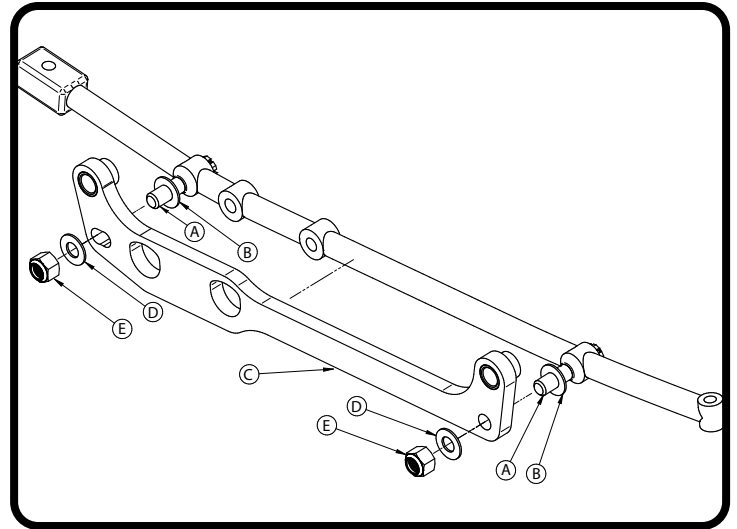

Figure 12
19. Slide a 1/2" washer (B) onto the drag link studs (A). Next, slide the drag link adapter (C) onto the studs (A). The adapter is positioned with the 2 clearance holes positioned to the passenger side, and the inner tie-rod mounting holes facing upward (Figure 12). Torque the two 7/16" castle nuts to **35 ft-lbs**, tighten to align the cotter pin hole and install the cotter pin. Install a 1/2" flat washer (D) and 1/2" locking nut (E) onto each of the studs and torque to **50 ft-lbs**.